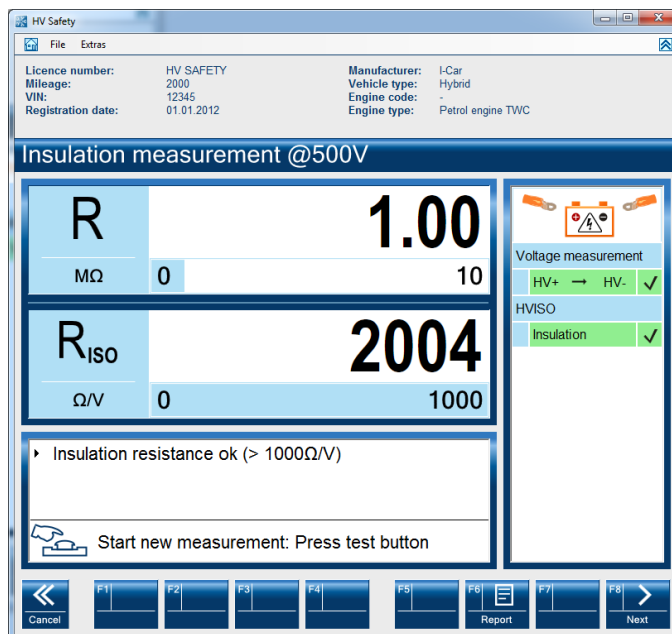

Fig. 3-4
9. The result of the measurement is displayed, see Fig. 3-4
6. The result of the measurement is displayed, see Fig. 3-4.